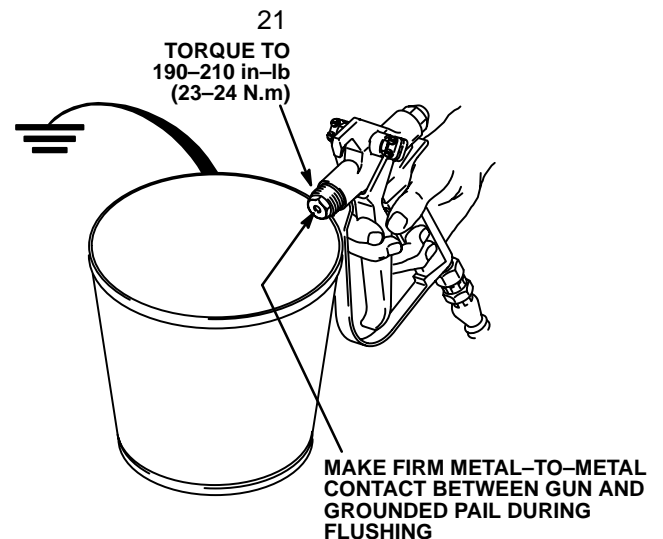

Fig 3
When changing spray tips, take a moment to check the tightness of the valve seat (21). It should be torqued to 190–210 in-lb (23–24 N.m). See Fig 3.
Before flushing, be sure the entire system and flushing pails are properly grounded. Refer to **Grounding** on page 5. Follow the **Pressure Relief Procedure** on page 6, and *remove the spray tip from the gun*. Always use the lowest possible fluid pressure, and maintain firm metal-to-metal contact between the gun and the pail during flushing to reduce the risk of a fluid injection injury, static sparking and splashing. See Fig 3.
If the nozzle leaks, check the tightness of the valve seat (21); it should be torqued to 190–210 in–lb (23–24 N.m). See Fig 3. If the problem is not corrected, service the gun. See page 6.